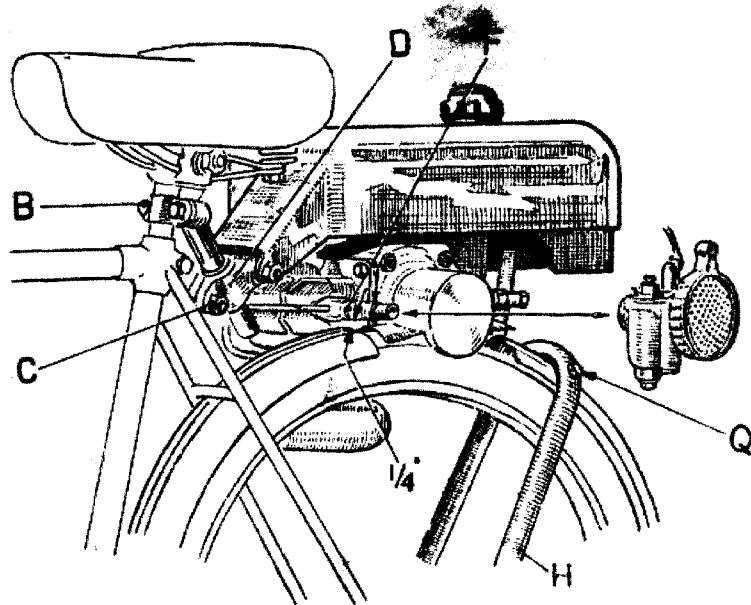

Fig. 3
- (6) Now tighten the clamp bolts "B" and sliding hinge bolts "C" (Fig. 3).
- (4) Now replace the unit as before and the roller will rest on the tyre. Move again the sliding hinge "D" to bring the tank afresh into a horizontal position. Make sure now that the cylinder fins and the inlet tube are at least  $\frac{1}{4}$  in. clear of the mudguard. If the clearance is less, it is necessary to cut away the sections of the mudguard which may endanger the free movement of the engine. (Fig. 3.)
- (5) Now look at the bicycle from the rear. Make sure that the tank top is parallel to the spindle of the rear wheel of the bicycle and that the roller rests well on the middle of the tyre.